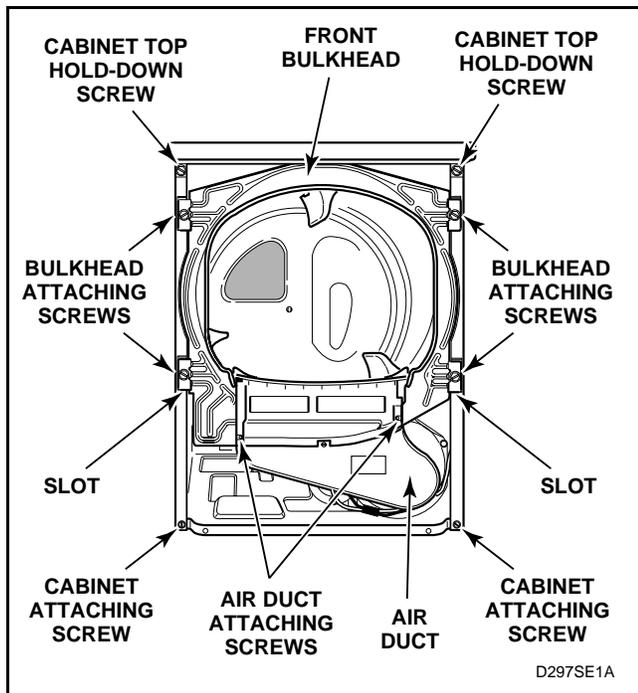

Figure 26
- f. Remove four screws holding bulkhead to front flange of cabinet and lift complete bulkhead assembly out of slots in cabinet. See *Figure 26*.
- f. Remove four screws holding bulkhead to front flange of cabinet. Then, lift complete bulkhead assembly out of slots in cabinet. See *Figure 26*.
- f. Remove four screws holding bulkhead to front flange of cabinet. Then lift complete bulkhead assembly out of slots in cabinet. See *Figure 26*.
- g. Remove two cabinet top hold-down screws. See *Figure 26*.